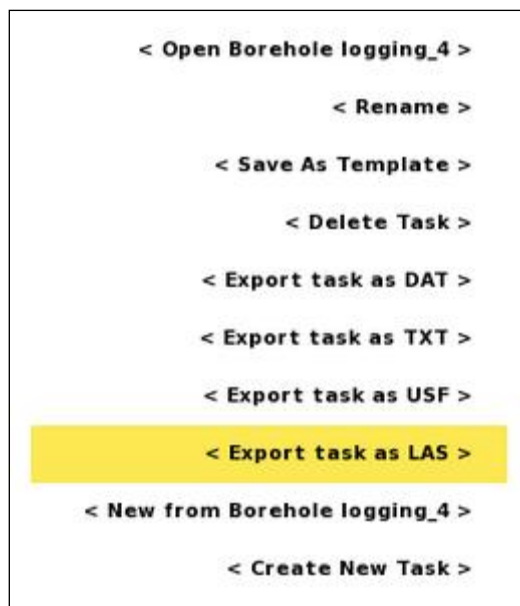

Figure 91 Task options menu
- Highlight <Export task as LAS> (Figure 91)